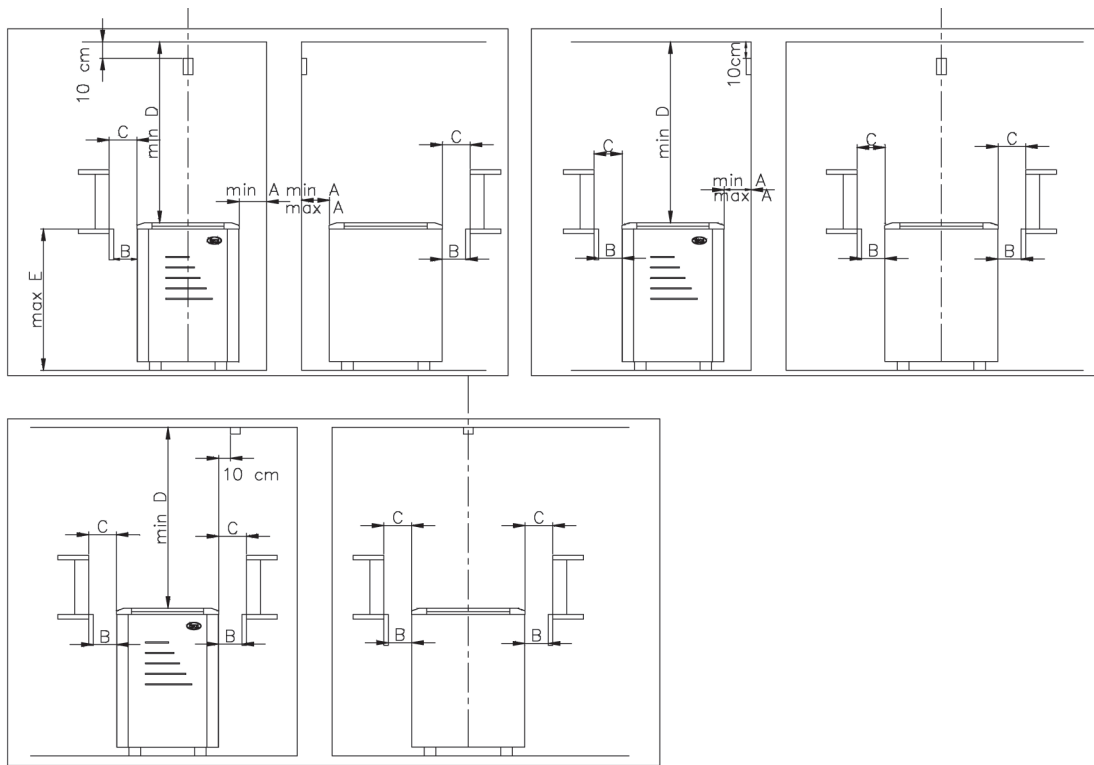

Fig. 1: Safety distances for N stoves
**) See Fig. 1
- Observe the safety distances (Fig. 1) when installing the stove.